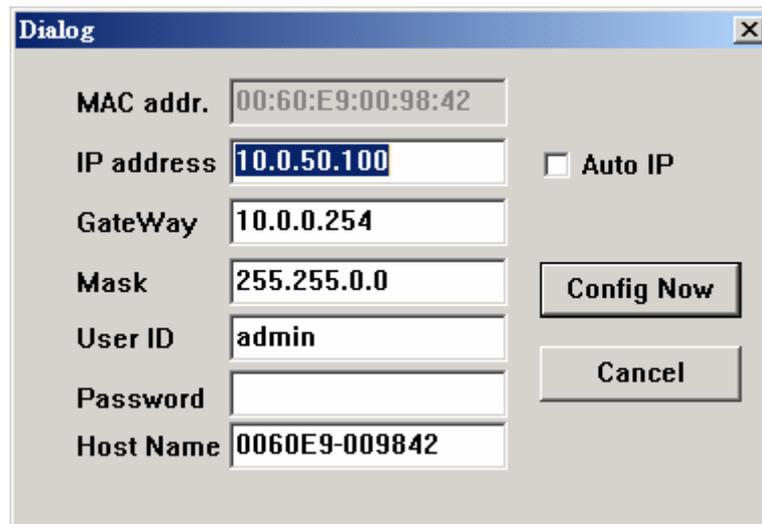

Figure 3.2 Static IP dialog window
- >Click "**Config**" to pop-up the static IP Dialog Window (Figure 3.2)